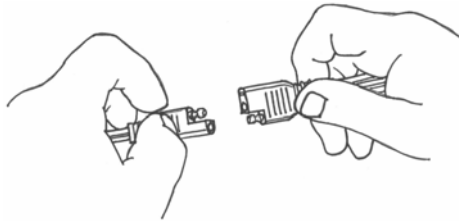

Figure 2
1. Refer to Figure 2. Connect the two-pin connector from the battery charger (left hand) to the three-pin connector from the battery harness (right hand).